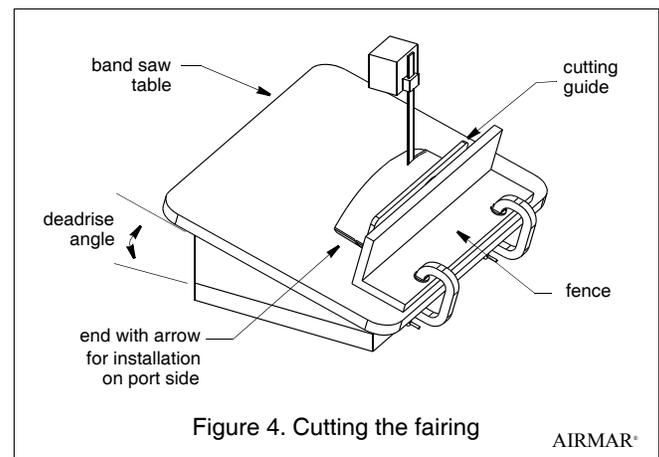

Figure 4. Cutting the fairing
2. Tilt the band saw table to the measured angle and secure the cutting fence (see Figure 4).
3. Place the fairing on the table, so the cutting guide rests against the fence. The arrow will point toward you for installation on the port side and away from you for installation on the starboard side of the boat (see Figures 4 and 5).